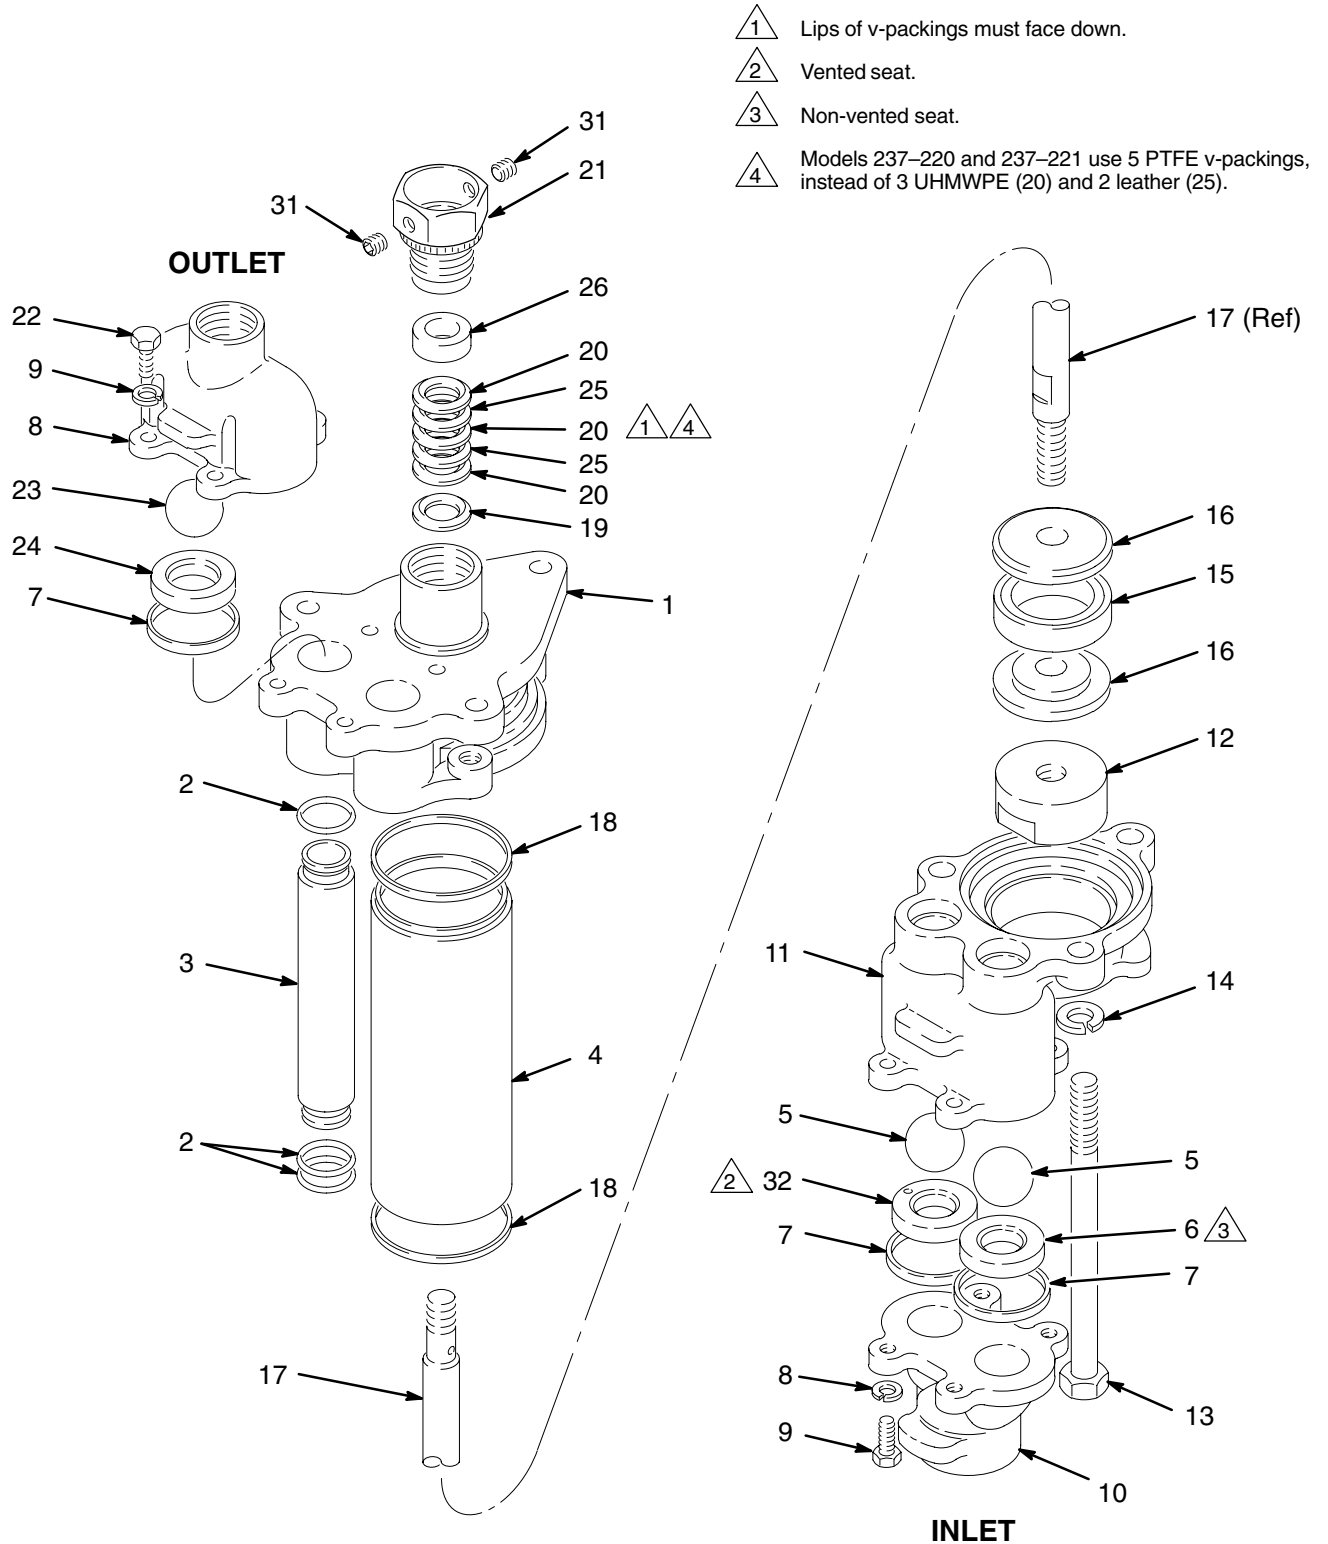
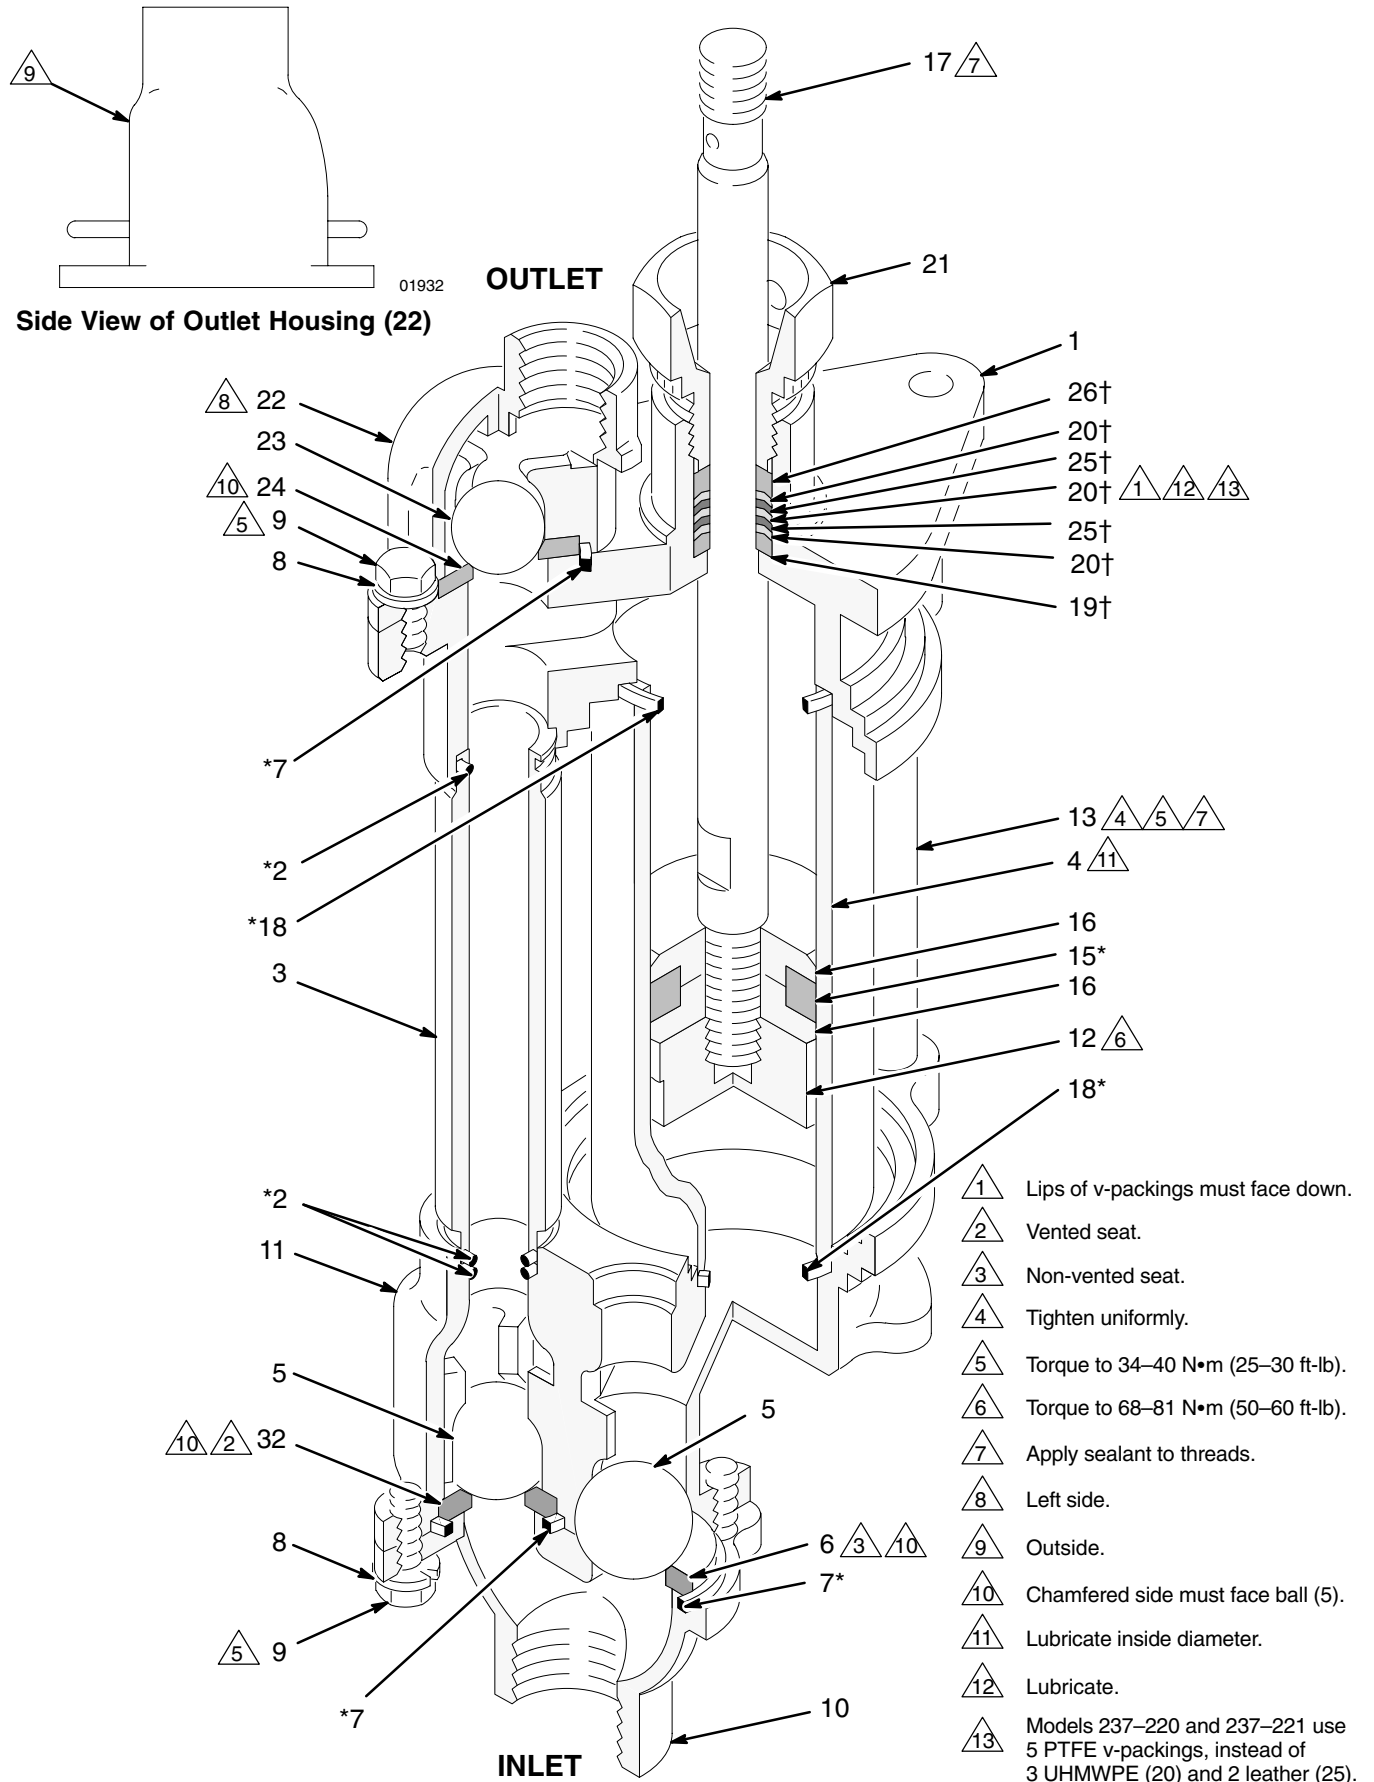

Fig. 9
Fig. 10
2. Secure the displacement pump intake housing (10) in a vise.
3. Refer to Fig. 9. Remove the four capscrews (9) and washers (8) from around the pump outlet housing (22).
4. Remove the outlet housing (22), balls (23), seats (24) and gaskets (7).
5. Remove the three tie bolts (13) and lockwashers (14). Lift off the upper pump housing (1), along with the fluid tubes (3), cylinder (4), and piston assembly (16).
6. Remove the packing nut (21), glands (19, 26) and packings (20, 25) from the upper housing (1).
7. Remove the tubes (3) and cylinder (4) from the housing.
8. Remove the intake housing (10) from the vise.
9. Remove the four capscrews (9) and washers (8) from the intake housing (10). Use a flatblade screwdriver inserted between the lower pump housing (11) and the intake housing (10) to separate the parts.
10. Remove the balls (5), seats (6 and 32) and gaskets (7).
NOTE: One of the seats (32) has a vent hole. Take note of the side of the pump in which this seat is used (the left side when viewed as shown in Fig. 9).
1. Place the two halves of the piston (16) around the packing (15*) and snap them together. See Fig. 10.
2. Apply thread sealant to the piston rod (17) threads. Screw the rod through the piston and packings and into the special piston nut (12). Torque the nut to 68–81 N•m (50–60 ft-lb).
3. With the lower pump housing (11) turned upside down, install the balls (5). Install the seats; place the vented seat (32) in the left side as viewed in Fig. 9 (housing has a label to identify the correct side), and the non-vented seat (6) in the right side. Install the gaskets (7*).
4. Place the intake housing (10) on the lower pump housing (11). Install the lockwashers (8) and capscrews (9). Torque to 34–40 N•m (25–30 ft-lb). See Fig. 10.
5. Place the intake housing (10) in a vise. Place one o-ring (2*) **in each side of the lower pump housing (11)** where the tubes (3) sit. Place another o-ring (2*) **in the grooves at each end of the tubes**. Place a gasket (18*) in both the upper and lower housings (1 and 11). Position the tubes and cylinder (4) in the lower housing (11).
6. Lubricate the inside of the cylinder (4). Slide the piston assembly into the cylinder.